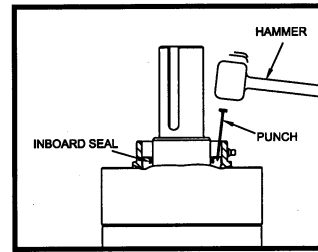

Figure 6.2.1.3 Piercing of Inboard Seal with Punch
7. From the pierced hole use the punch to pry the seal out of the housing. **Reference Figure 6.2.1.4**.